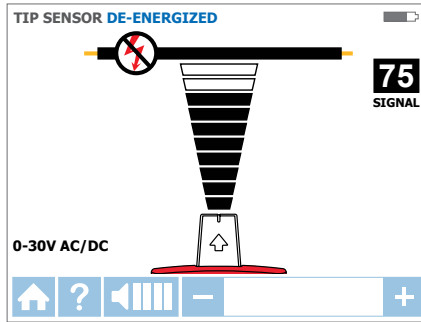

Figure 3.2c
2. Select De-Energized TIP SENSOR mode by using the directional arrows to highlight this operating mode and pressing the yellow "ENTER" button. Screen will appear as shown in Figure 3.2c